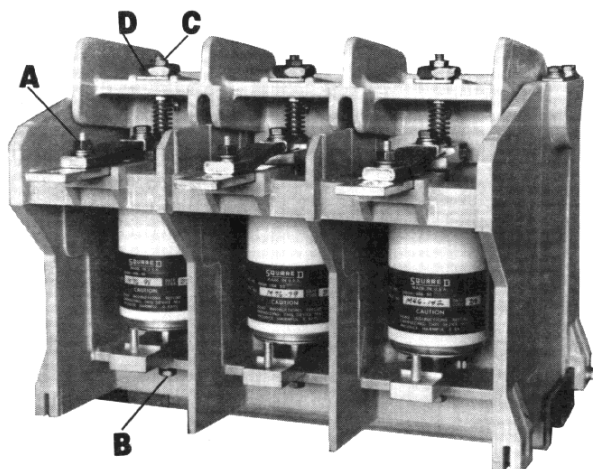

FIGURE 7
- 1) Remove bolt and washer (A) (See Figure 7) holding flexible shunt to the contactor line bus. DO NOT REMOVE THE BOLT HOLDING THE SHUNT TO THE BOTTLE ASSEMBLY.